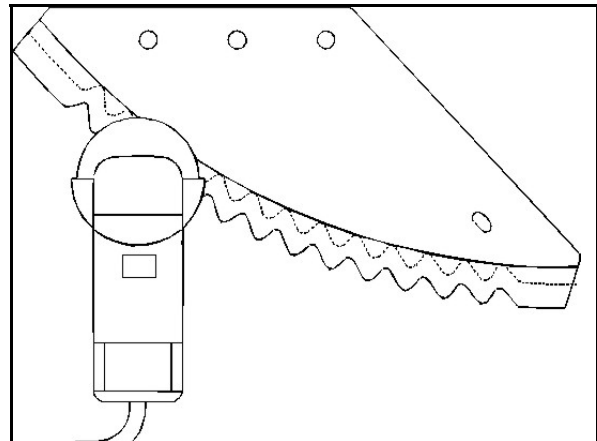

Fig. 92
- Use angle drivers with a serrated lock grinding disc for grinding knives (Fig. 92).